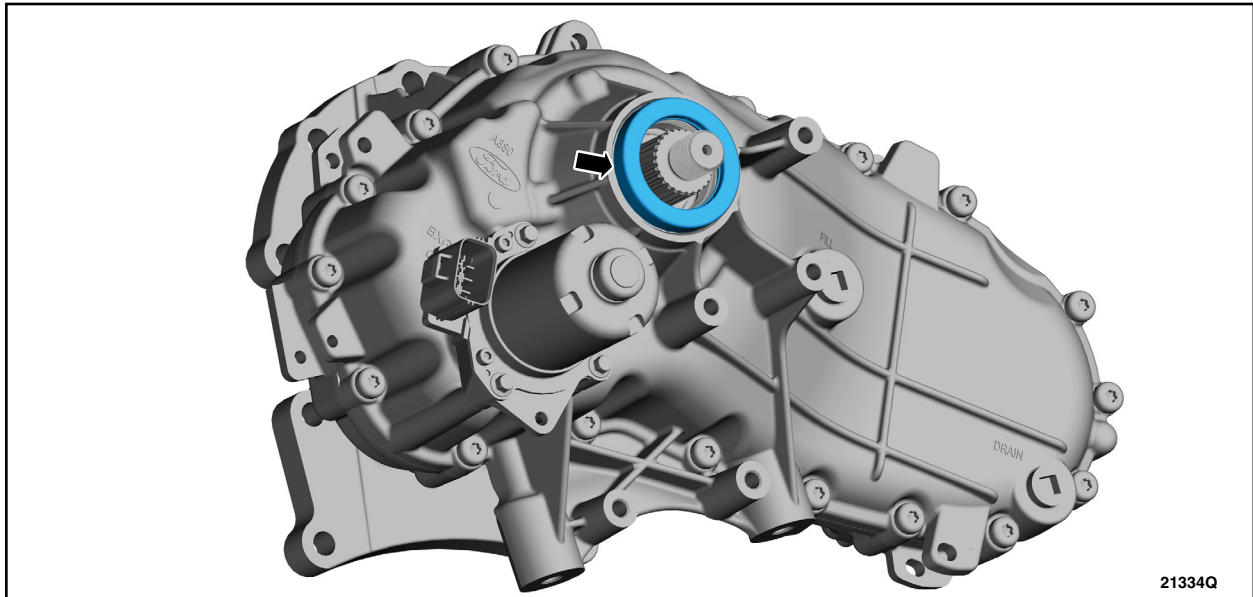

FIGURE 16
27. Install the transfer case rear output shaft seal dust cover. See Figure 16.